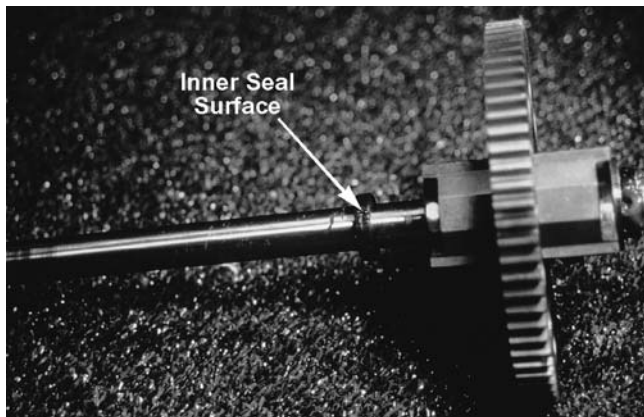

Figure 6-135
13. The axle shaft has sealant on the inner seal surface area. The sealant on the axle shaft will cause the seal to leak oil. Oil normally will leak out of the axle horn area. See Figure 6-135.